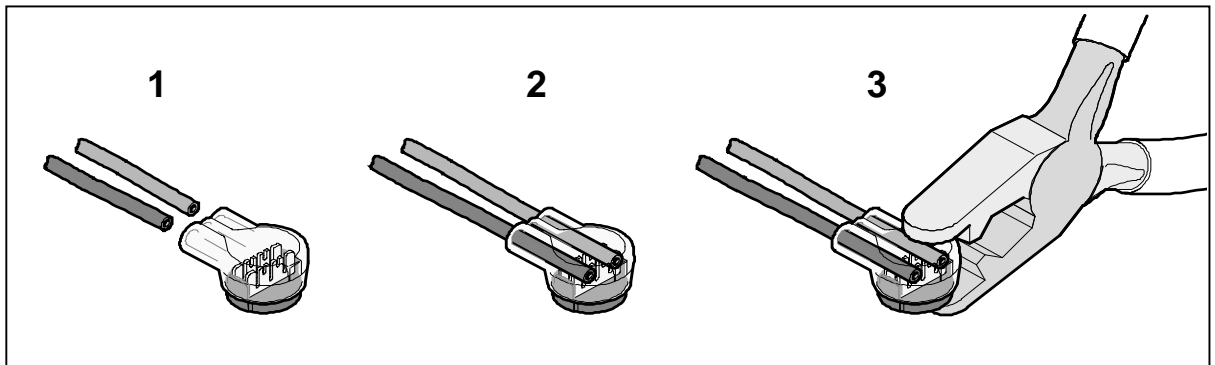

Figure 8: Butt connector VH 10998909 installation procedure:
4. The terminals used to hook-up the lamp to the coach wiring have been replaced by butt connectors, which are gel filled and gas tight. Wires are simply inserted into the housing and crimped down, which actuates an insulation displacement mechanism automatically connecting the two wires into an environmentally gel sealed unit. To install, a suitable crimping tool is required (see Figure 8 further in the procedure).
- 6) Referring to Figures 8 and 9 and to the notes taken in step three of this procedure, hook-up the new lamp using butt connectors VH 10998909 and pliers VH10998914. No stripping of wire insulation is required.